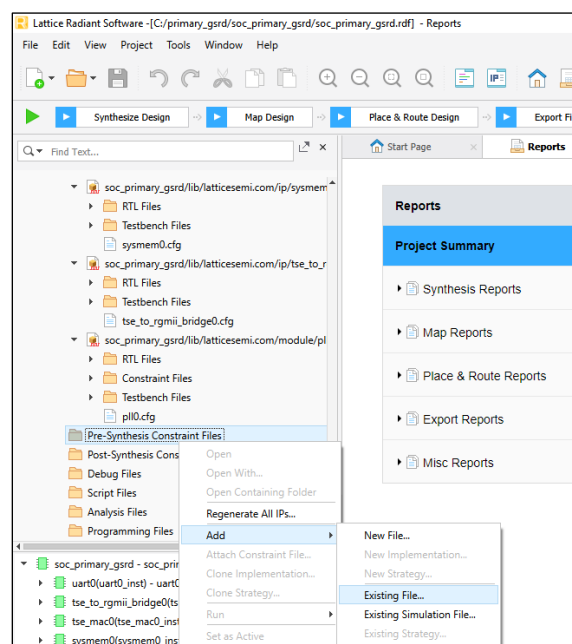

Figure 8.49. Add Existing Pre-Synthesis Constraint
- Right-click on **Pre-Synthesis Constraint Files > Add > Existing File** as shown in Figure 8.49.